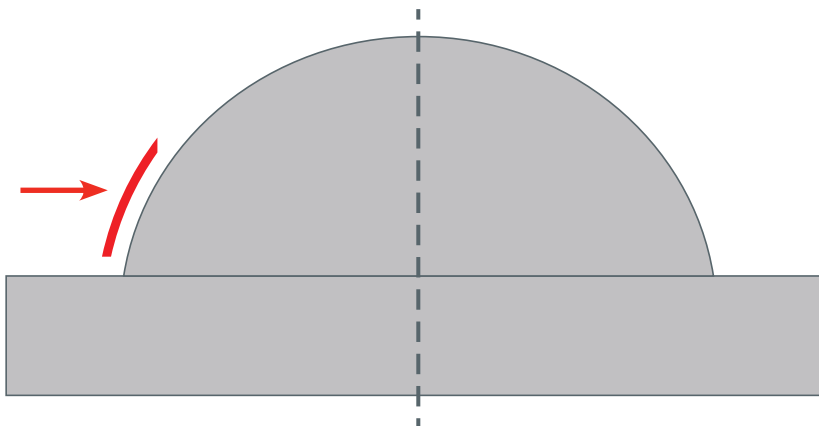

Figure 5: Estimation of where the slope is at the steepest for measurement
- 1 The sample should be placed on the spindle and centred and levelled correctly. Looking at the part it should be possible to estimate where the slope is at its steepest. (See Figure 5).